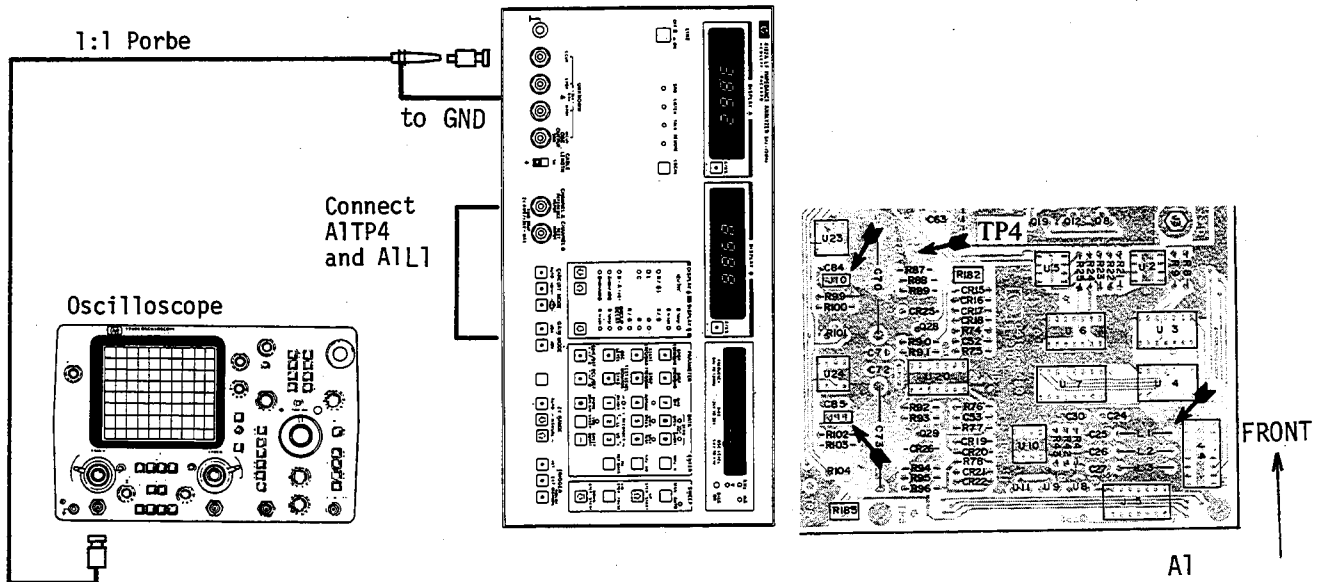

Figure 5-15. A1 LCUR Amplifier Phase Adjustment Setup.
- d. Connect the 50 $\Omega$  termination to the LCUR terminal on the 4192A and connect oscilloscope input to the outer conductor of the 50 $\Omega$  termination as shown in Figure 5-15.